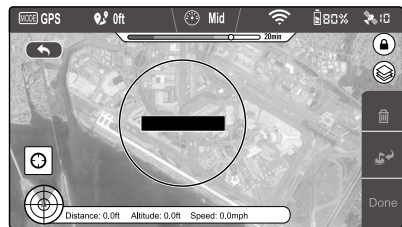

Figure 104
- ⚠️ A circle on the map, as shown in Figure 104, indicates a restricted, No Waypoint area. Waypoints cannot be placed in this area. For more information, refer to "6.2 Flight Restriction of Restricted Areas (P30)".